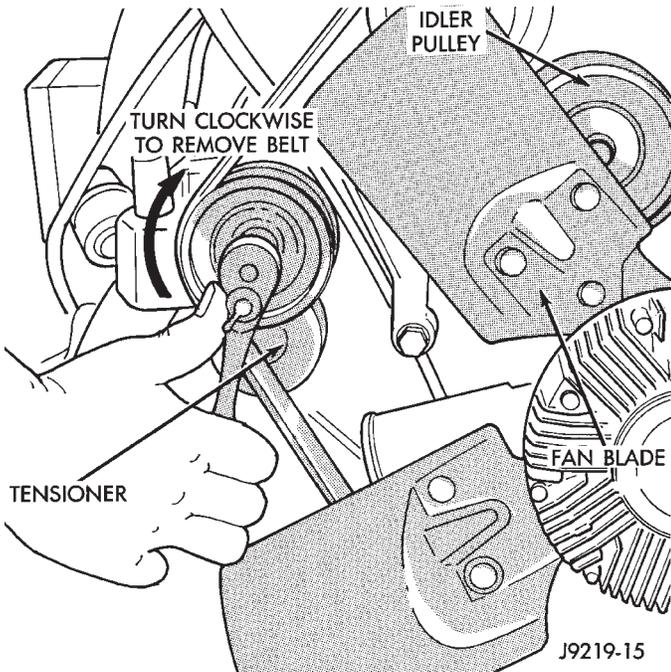

Fig. 41 Automatic Belt Tensioner—5.2/5.9LEngines
(a) Remove generator drive belt as follows: Drive belts on the 5.2/5.9L engines are equipped with a spring loaded automatic belt tensioner (Fig. 41).
(b) Attach a socket/wrench to pulley mounting bolt of automatic belt tensioner (Fig. 41).
- (d) Attach a socket/wrench to pulley mounting bolt of automatic belt tensioner (Fig. 41).